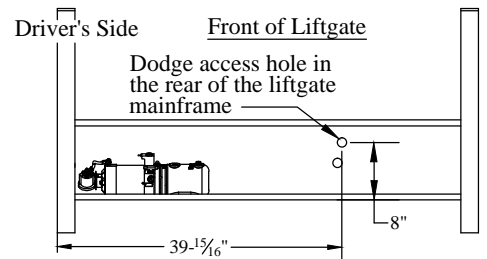

Figure 15: Spare tire access.
2. **Remove** the black plastic plug from the mainframe in the location shown (Figure 15).